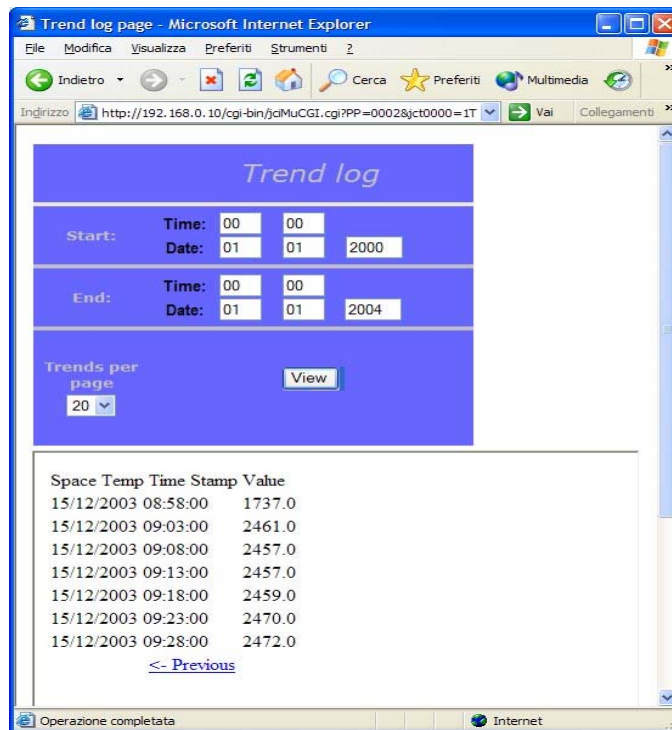
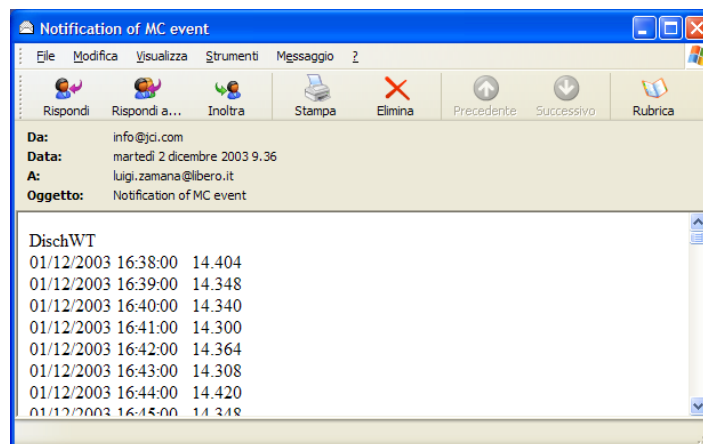

Figure 198: Trend Logs on Web
Figure 199: Trend Logs on E-Mail
1. Copy the logged data from its original container, e-mail message, or Hypertext Markup Language (HTML) page. See Figure 198 and Figure 199.